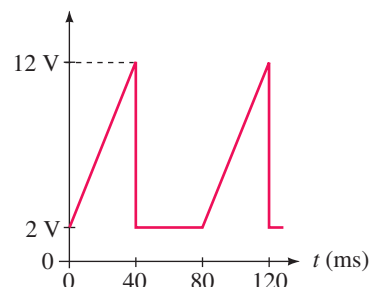

FIGURE 25–63
22. Repeat Problem 21 if the waveform of Figure 25–55 is applied to the input of the spectrum analyzer.